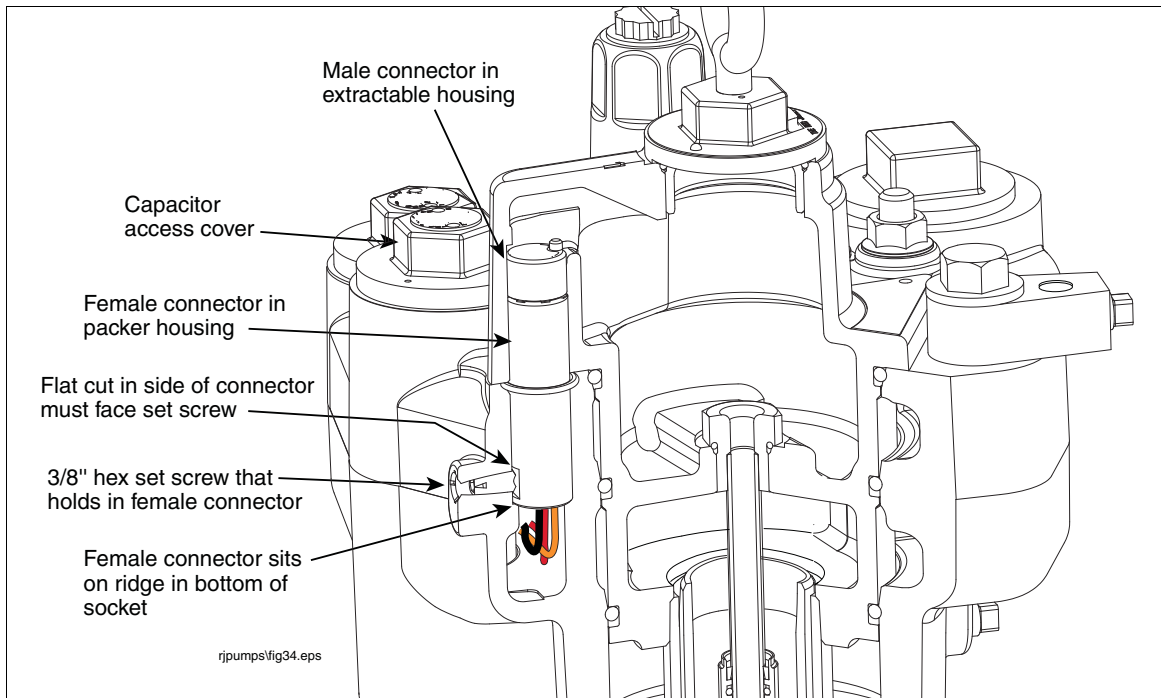

Figure 41. Locating Female Connector Set Screw
18. Using a 3/16" hex wrench, turn the set screw that holds the female connector in place about 1-1/2 turns counterclockwise until you can lift out the connector (see Figure 41).